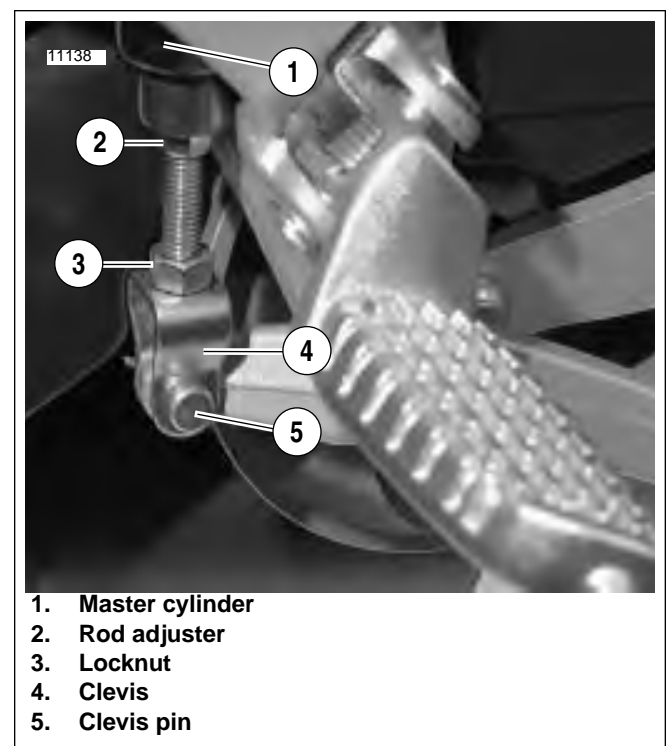

Figure 1-15. Rear Brake Pedal Pushrod Adjustment
1. See Figure 1-15. Inspect for minimum and maximum brake rod engagement in brake clevis (4). Adjust as required.
- a. See Figure 1-15. Loosen locknut (3) while holding rod adjuster (2). Move locknut away from top surface of clevis (4).
- c. Thread locknut (3) flush against top surface of clevis and tighten to 130-173.5 in-lbs (14.7-19.6 Nm).